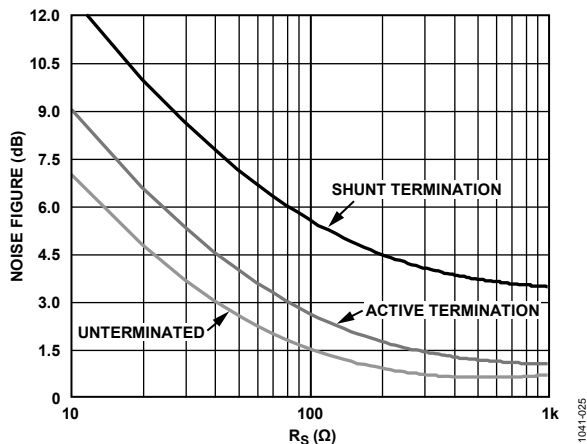
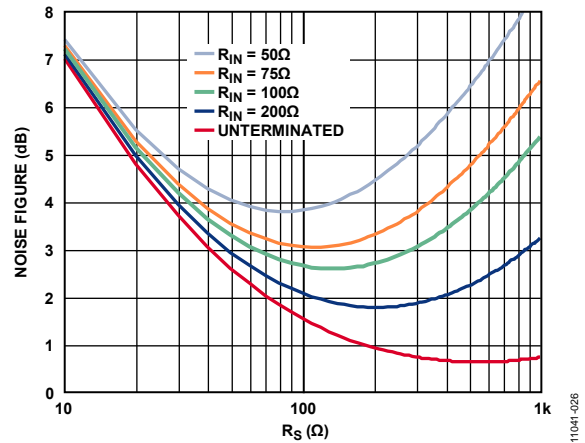

Figure 35. Noise Figure vs. R_S for Shunt Termination, Active Termination Matched, and Unterminated Inputs, $V_{GAIN} = 1.6 V$
Figure 36. Noise Figure vs. R_S for Various Fixed Values of R_{IN} , Active Termination Matched Inputs, $V_{GAIN} = 1.6 V$
The short-circuit noise voltage (input referred noise) is an important limit on system performance. The short-circuit noise voltage for the LNA is 0.78 nV/ \sqrt{Hz} at a gain of 21.6 dB, including the VGA noise at a VGA postamplifier gain of 27 dB. These measurements, taken without a feedback resistor, provide the basis for calculating the input noise and noise figure (NF) performance. Figure 35 and Figure 36 are simulations of noise figure vs. R_S results with different input configurations and an input referred noise voltage of 2.5 nV/ \sqrt{Hz} for the VGA. Underterminated ($R_{FB} = \infty$) operation exhibits the lowest equivalent input noise and noise figure. Figure 36 shows the noise figure vs. source resistance rising at low R_S —where the LNA voltage noise is large compared to the source noise—and at high R_S due to the noise contribution from R_{FB} . The lowest NF is achieved when R_S matches R_{IN} .
Figure 35 shows the relative noise figure performance. With an LNA gain of 21.6 dB, the input impedance is swept with R_S to preserve the match at each point. The noise figures for a source impedance of 50 Ω are 7 dB, 4 dB, and 2.5 dB for the shunt termination, active termination, and unterminated configurations, respectively. The noise figures for 200 Ω are 4.5 dB, 1.7 dB, and 1 dB, respectively.
Figure 36 shows the noise figure as it relates to R_S for various values of R_{IN} , which is helpful for design purposes.